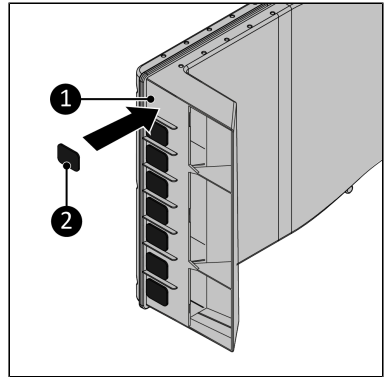

Figure 54.
3. Stick the eight 30 x 24 mm anti-slip foams (Figure 54, pos. 2) on the 8 spaces on the front of the Window Way-out (Figure 54, pos. 1).